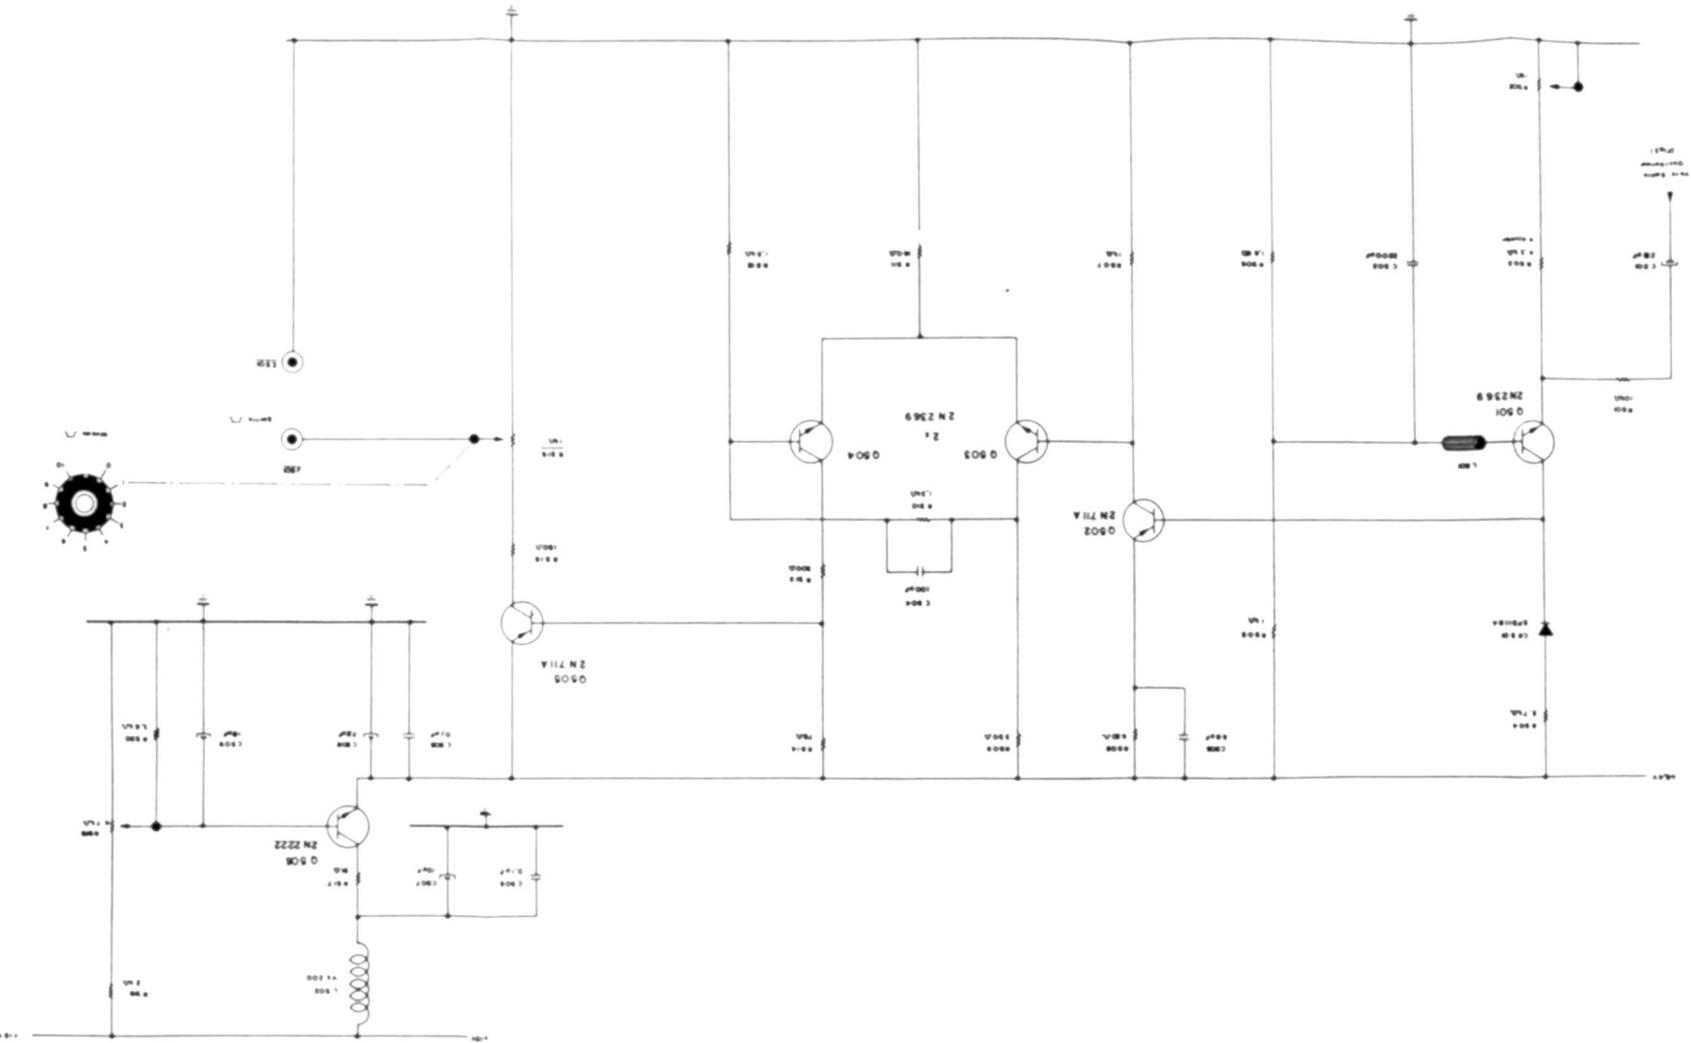

Fig 5
1.5- GENERATEUR DE CRENEAUX CARRES (FIG. 5)